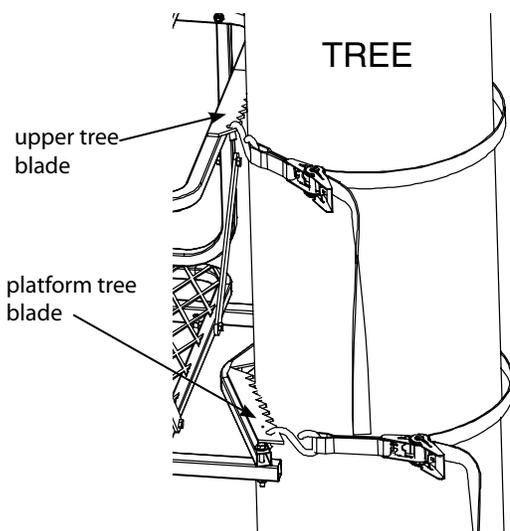

Figure 2
- Standing on ladder step, lean toward tree with ratchet strap now in hand, Hook "S" hook with long strap through hole provided on tree blade. Feed the long strap through the center (slot) of ratcheting mechanism and back around through tightening lever. **SEE FIGURES 2 AND 3.**
Wrap entire ratchet assembly around tree and hook other "S" hook through opposite upper tree blade hole. Pull tail of long strap until most of the slack is taken out. Be sure entire strap is even and at the same level all around tree. "Ratchet" tight to tree, this will securely attach ladder to tree and prevent movement. **SEE FIGURES 2 AND 4.**
- Repeat step 4 for second tree blade attachment by placing "S" hooks through holes provided on second tree blade. **SEE FIGURES 2, 3 AND 4.**